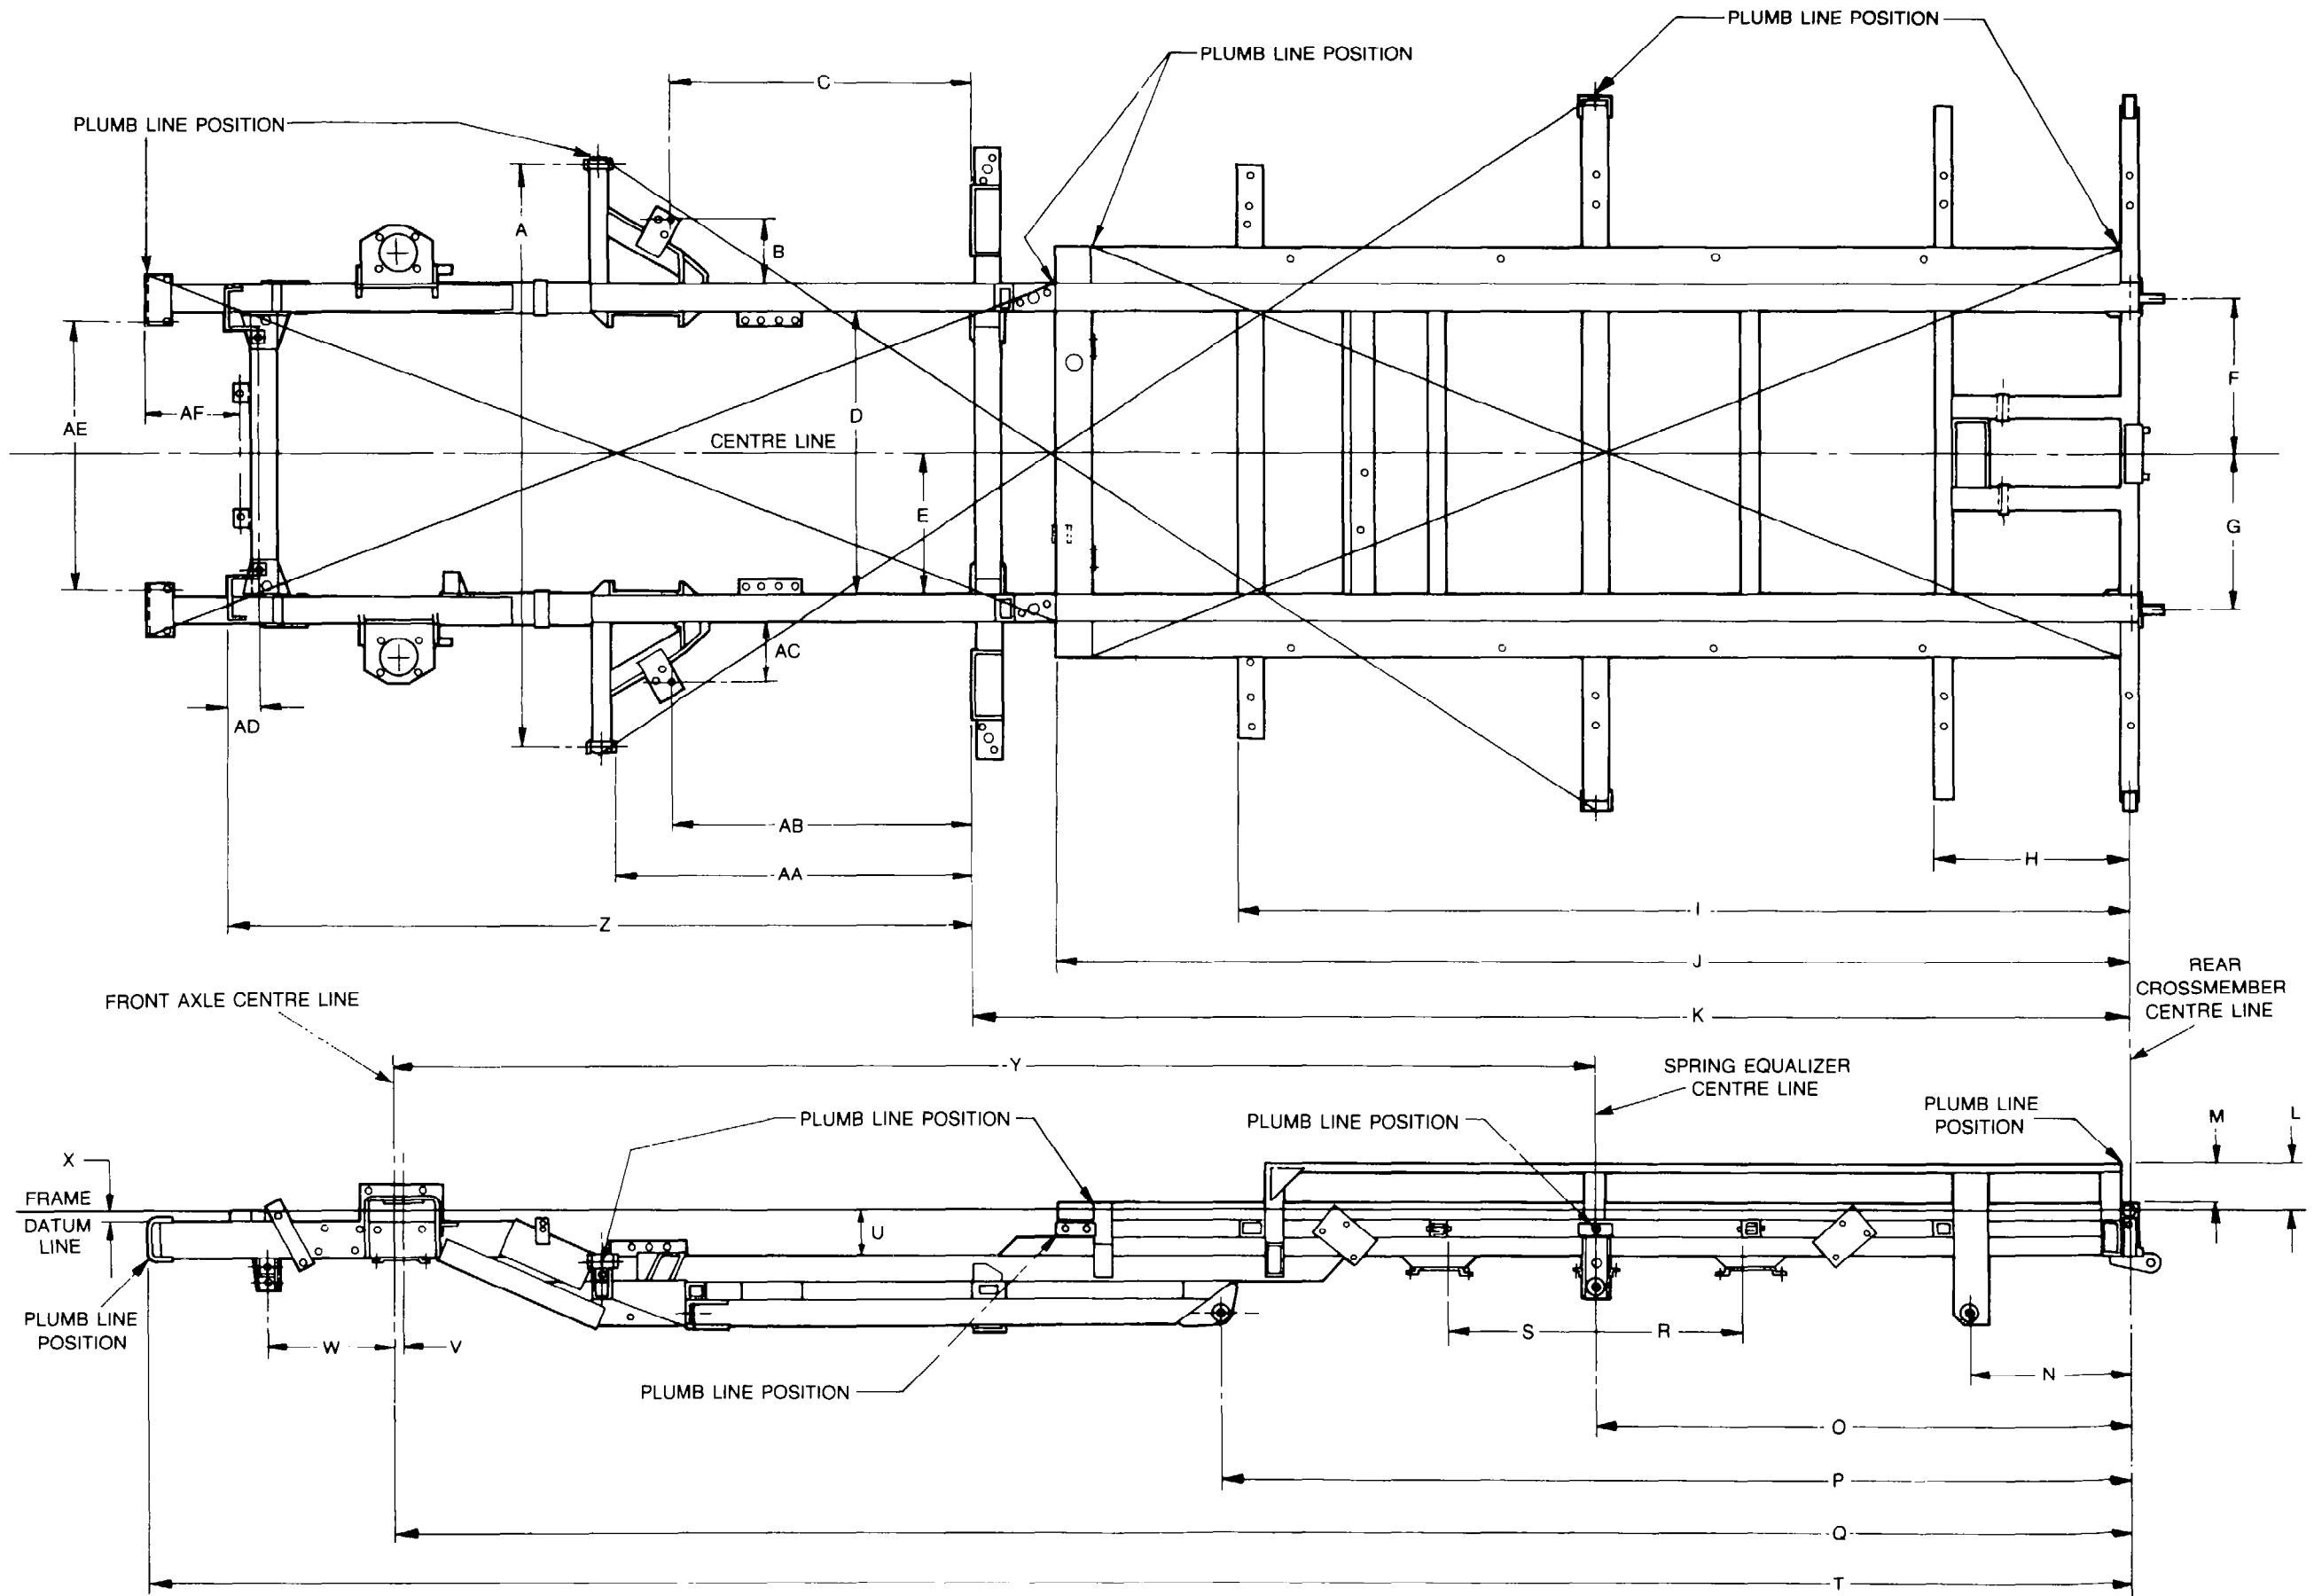

Figure 13 — Frame Alignment
- a. Place the assembled vehicle on a level floor and hold a plumb line against one of the points shown in Fig. 13. Mark the point with chalk directly below the plumb bob. Repeat the procedure for the remaining points to determine the frame squareness.
- d. Side rail checks can be made while referring to Fig. 13.